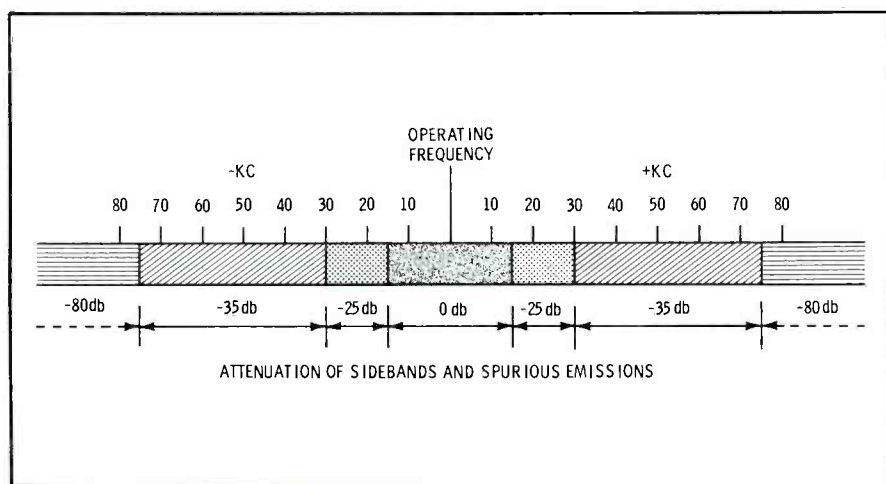

Fig. 1. Diagram shows required levels of signal suppression in various frequency bands.
veals that the suppression of spurious emissions is to be considered in band segments related to the carrier frequency. These are emissions removed from the carrier frequency by: (1) 15 to 30 kc, (2) 30 to 75 kc, (3) more than 75 kc. Fig. 1 shows the positions of these bands in relation to the carrier frequency. It also shows the amount of reduction, specified in decibels related to the unmodulated carrier level, required within each band.
When a standard field-intensity meter is available, the measurements necessary to check adjacent channels (except for stations at or near either end of the broadcast band) can be made easily. One procedure for conducting these tests is to set up the field-strength meter a short distance from the station—a mile or more, depending on the station's power—and listen within the bands shown in Fig. 1. The strength of any emission from the station outside the assigned channel should be recorded. Also, the strength of the station's carrier at this point should be measured and logged. The relative strength of the spurious emission is computed as follows: